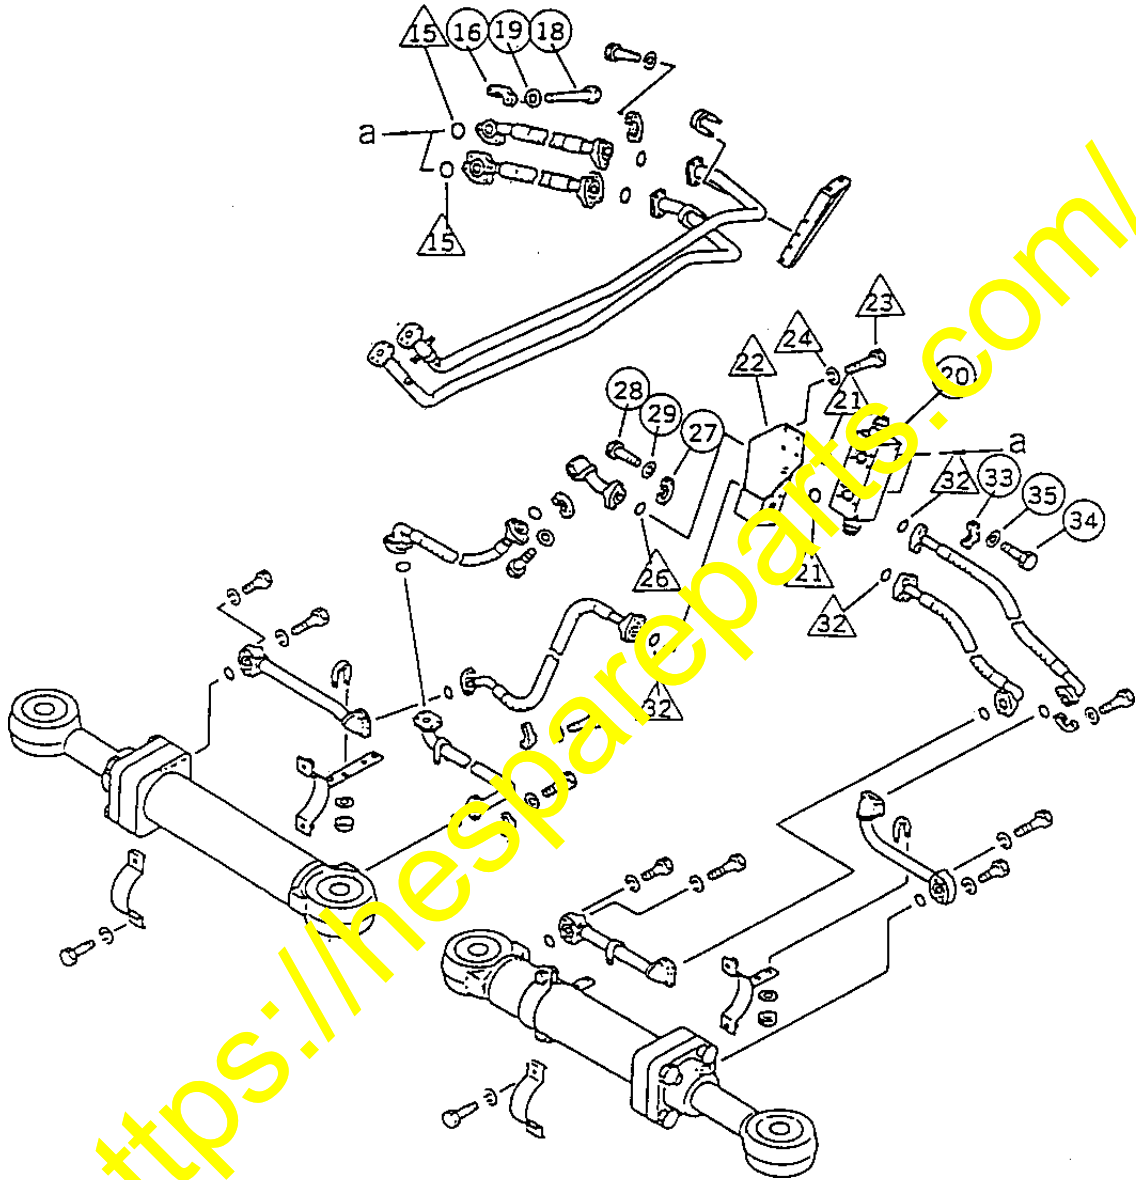

Fig. 28
- (1) Remove the existing BLOCK (561-61-44810). (See Fig. 28)